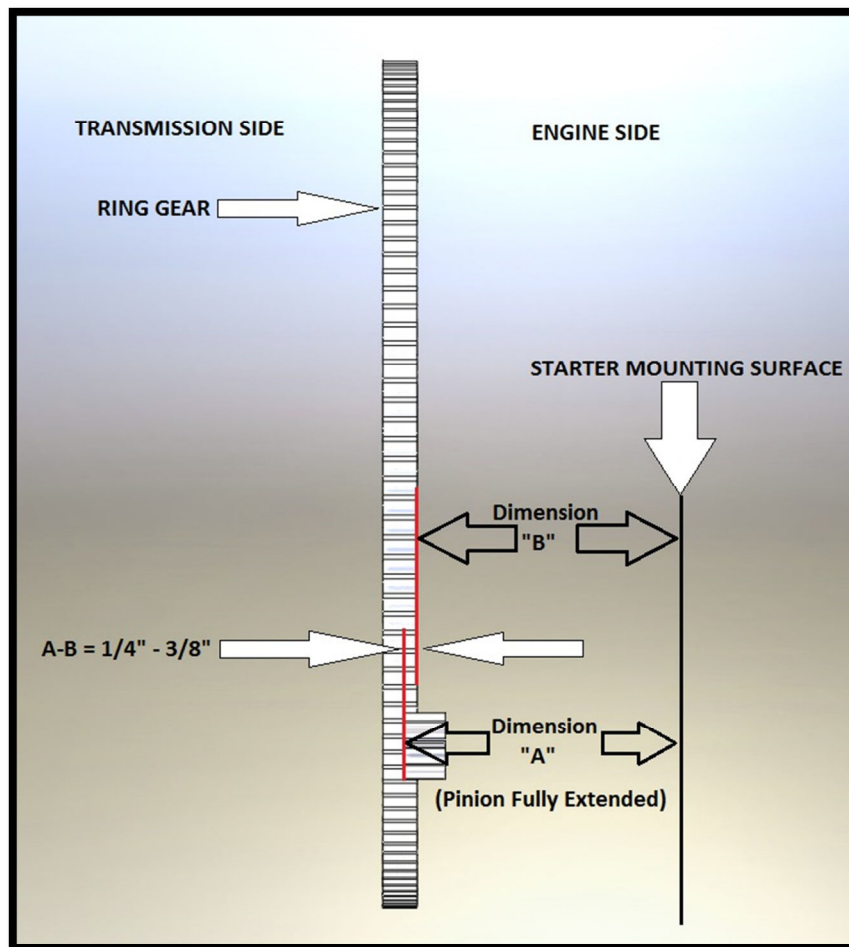
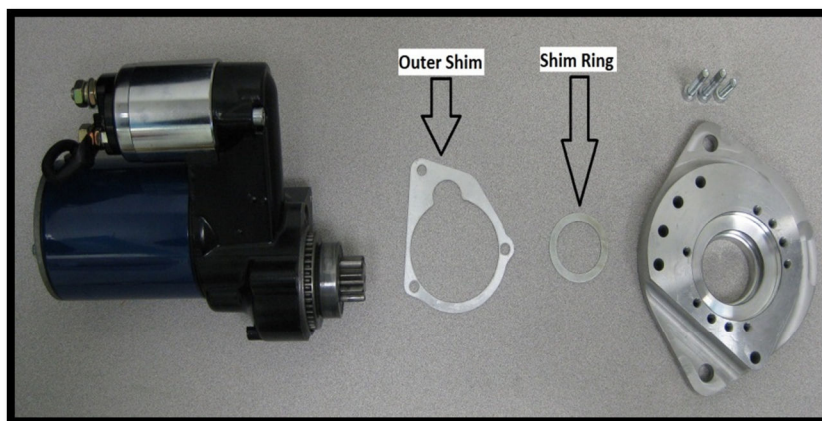

Figure 4: Calculating Pinion Engagement
Figure 5: Starter Shim Assembly, (If Required)
STEP 5-1. (Pinion Engagement): There are two possible methods to measure pinion engagement. **The First (Preferred) Method:** With the starter removed, manually extend the pinion and measure the distance from the outer surface of the pinion to the starter mounting flange where it bolts to the bellhousing. Record this as dimension "A". Then measure from the bellhousing / block plate to the face of the ring gear. Record this as dimension "B" – this dimension should be close to 3/8" or 3/4", depending on your application. **Please see Figure 4.** A-B needs to be between 1/4" to 3/8". If A-B > 3/8", then remove the mounting block and install the shim ring and outer shim. (Please see Figure 5.) This will move the pinion away from the ring gear approximately .060", or 1/16". If A-B is significantly out of range, most likely the wrong application starter is being used.